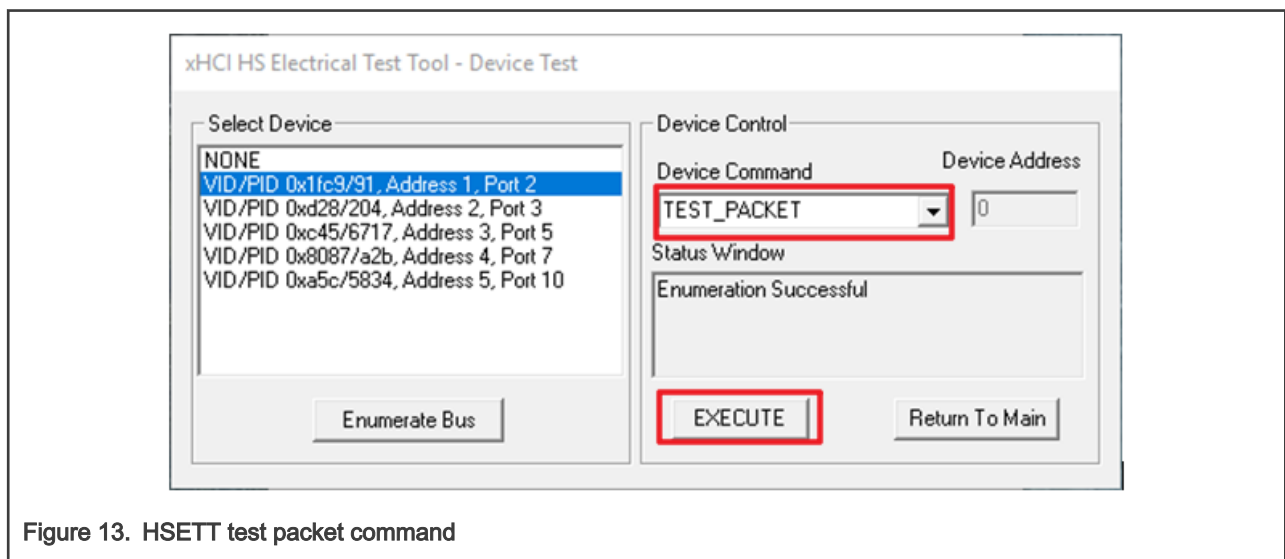

Figure 13. HSETT test packet command
8. Select **TEST_PACKET** from the **Device Command** drop-down menu, as shown in Figure 13. Click **EXECUTE**. The device under test continuously transmits test packets.